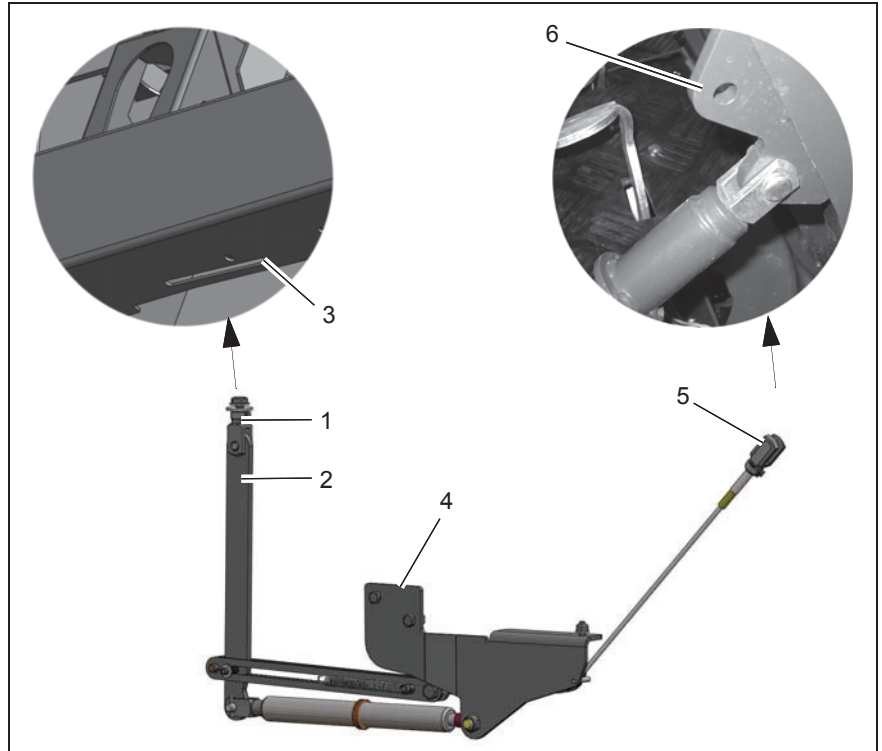

Fig.5
5. Remove the fork head (Fig. 5/1) with folding spring bolt. Guide the lever (Fig. 5/2), from below, through the slot (Fig. 5/3) in the vehicle frame.
7. Assemble the plate (Fig. 5/4) on the vehicle frame with two M10x30 screws, M10 nuts and washers.
9. Fix the fork head of the brake cable (Fig. 5/5) to the bracket (Fig. 5/6).